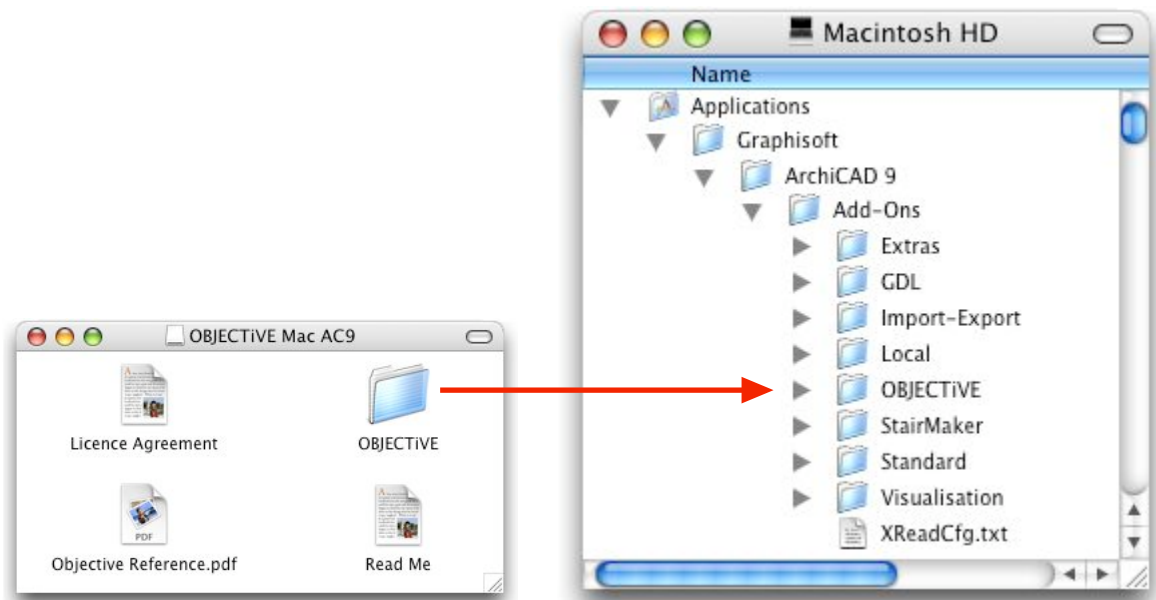

Figure 2.24
2. Drag the folder called "OBJECTiVE" into the "Add-Ons" folder in the ArchiCAD application folder (Fig. 2.24). Copy the entire folder as shown because it contains more files than the add-on alone.